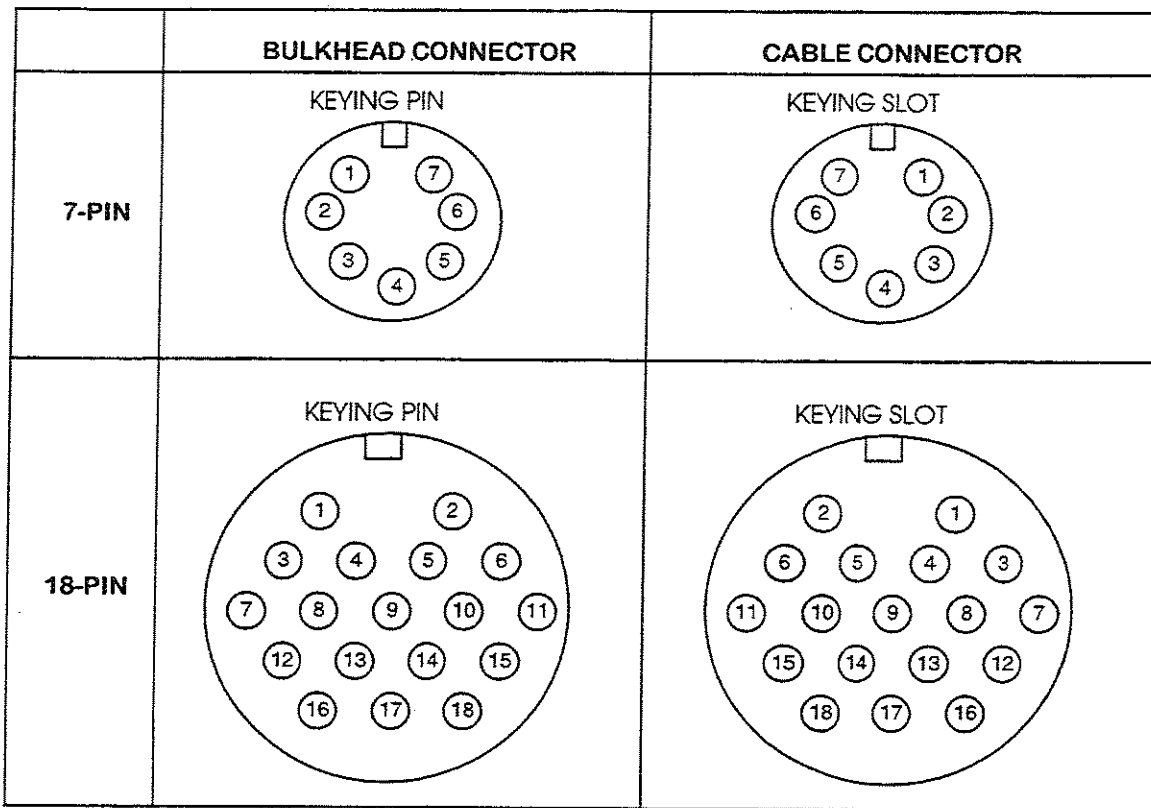

Figure A3 – Circular connector pin designators
11.1 For a weather-resistant aluminum enclosure for *DATAFLOW RTU*, purchase it in a small (S) enclosure option. This option also provides bulkhead circular connectors and one UHF antenna port. See Figure A3 for pin number designations of the circular connectors.